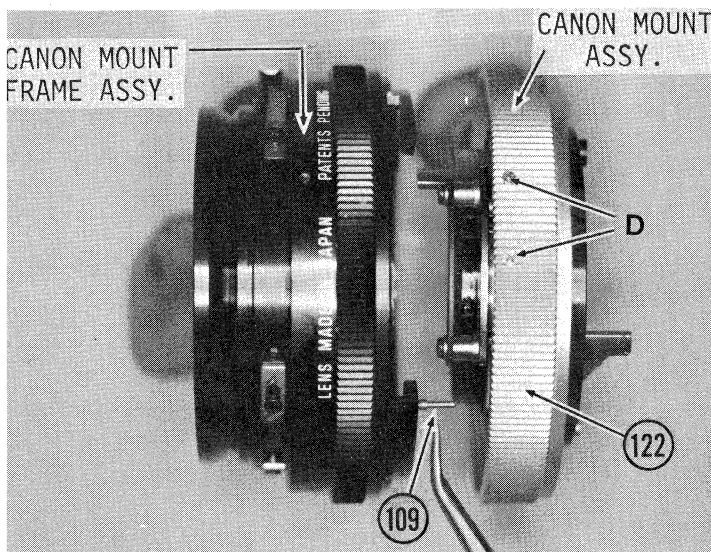
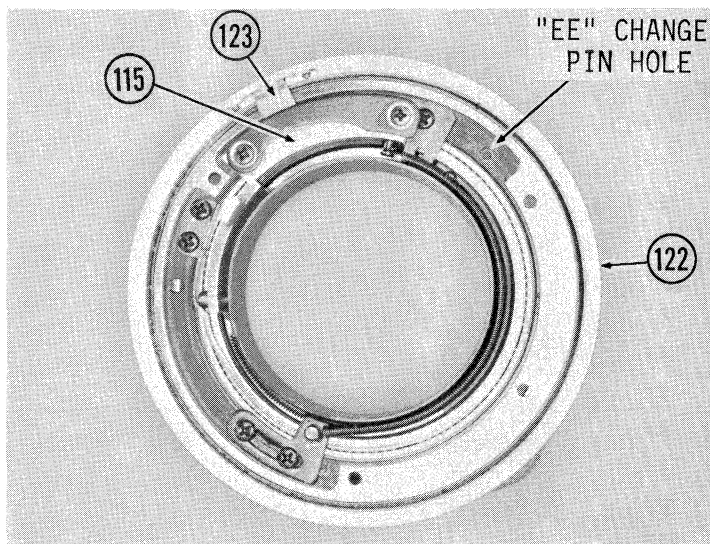

Fig. 46
Fig. 47
- 5.4.1.7 Separate Canon Mount Assembly from Canon Mount Frame Assembly removing Change Pin (109) and Change Pin Spring (110) to prevent loss. (Fig. 46)
- 5.4.1.8 Between Canon Mount and Canon Mount Frame will usually be found one or more Rear Focus Spacers (111); remove and lay aside.
NOTE: If you have rotated Canon Mount Locking Ring (122) from the position set for separation, rotate it so that Signal Lever (123) is in position shown in Fig. 47). (Signal Lever in contact with pin on underside of Diaphragm Setting Ring (115)).
- 5.4.1.10 Remove two screws (D) (Fig. 46) and Signal Lever (123) (Fig. 47)